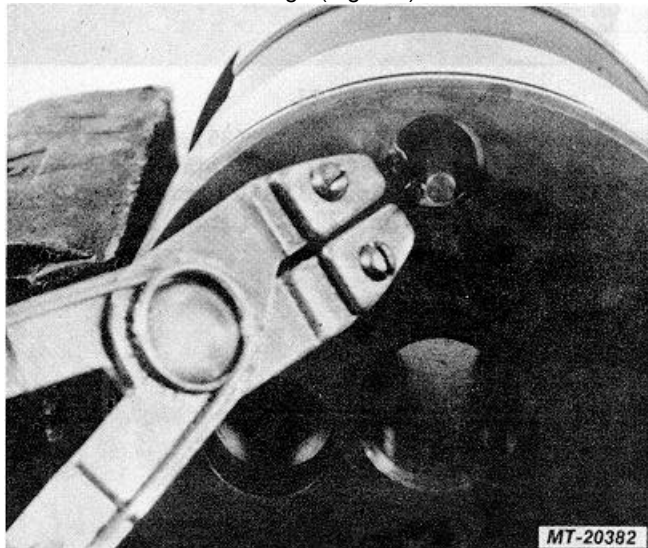

Fig. 16
33. Remove worm shaft (17) from rack piston (31).
34. Clamp rack piston (31) in a vise to remove retaining rings (32), poppet seats (33), poppets (34), rods (35) and spring (36). Do not remove these parts unless there is evidence of damage (Fig. 16).